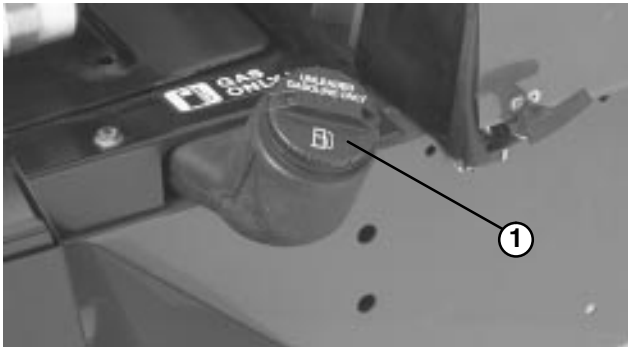

Figure 12
1. Clean area around fuel tank cap (Fig. 12).